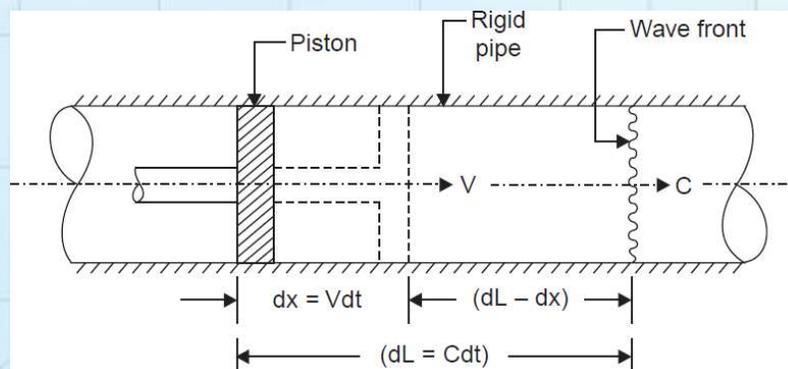

Fig.6.1 – One dimensional pressure wave propagation
► Consider a one-dimensional flow through long straight rigid pipe of uniform cross-sectional area filled with a frictionless piston at one end as shown in Fig. 6.1.